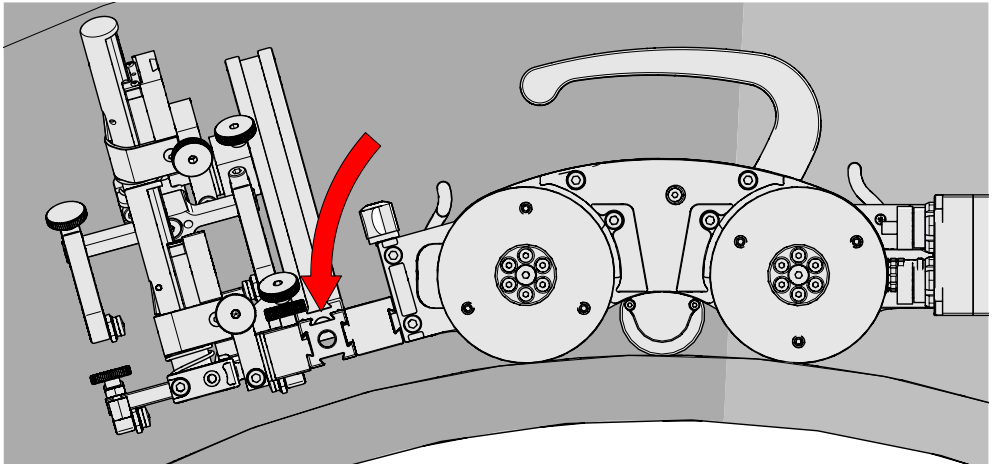

Fig. 272 - Align swivel mount with scan surface
3. Release the front swivel mount adjustment levers to align the swivel mount parallel to the scan surface (*Fig. 272*).